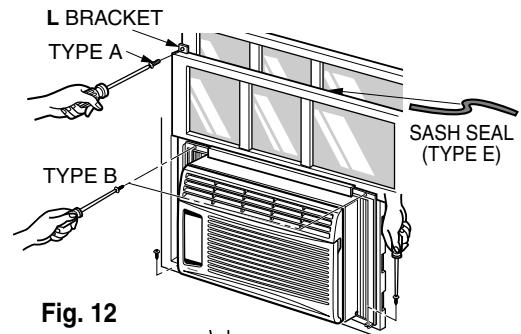

Fig. 12
Extend the guide panels (TYPE F) to fill the window opening using 4 screws (TYPE B) to secure them, as shown in Fig. 12.
- a. Cut the sash seal (TYPE E) to the window width. Stuff the sash seal between the glass and the window to prevent air and insects from getting into the room, as shown in Fig. 12.
- b. Fasten the L bracket using a screw (TYPE A), as shown in Fig. 12.